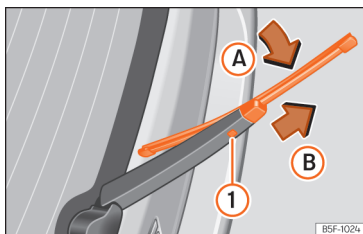

Fig. 85 Changing the rear wiper blade
- Turn the blade slightly »» Fig. 85 (arrow (A)).
- Hold down the release button ❶ while gently pulling the blade in the direction of arrow (B).
- Insert a new blade of the **same length and type** in the rear wiper arm in the opposite direction to the arrow (B) and hook into place button ❶.